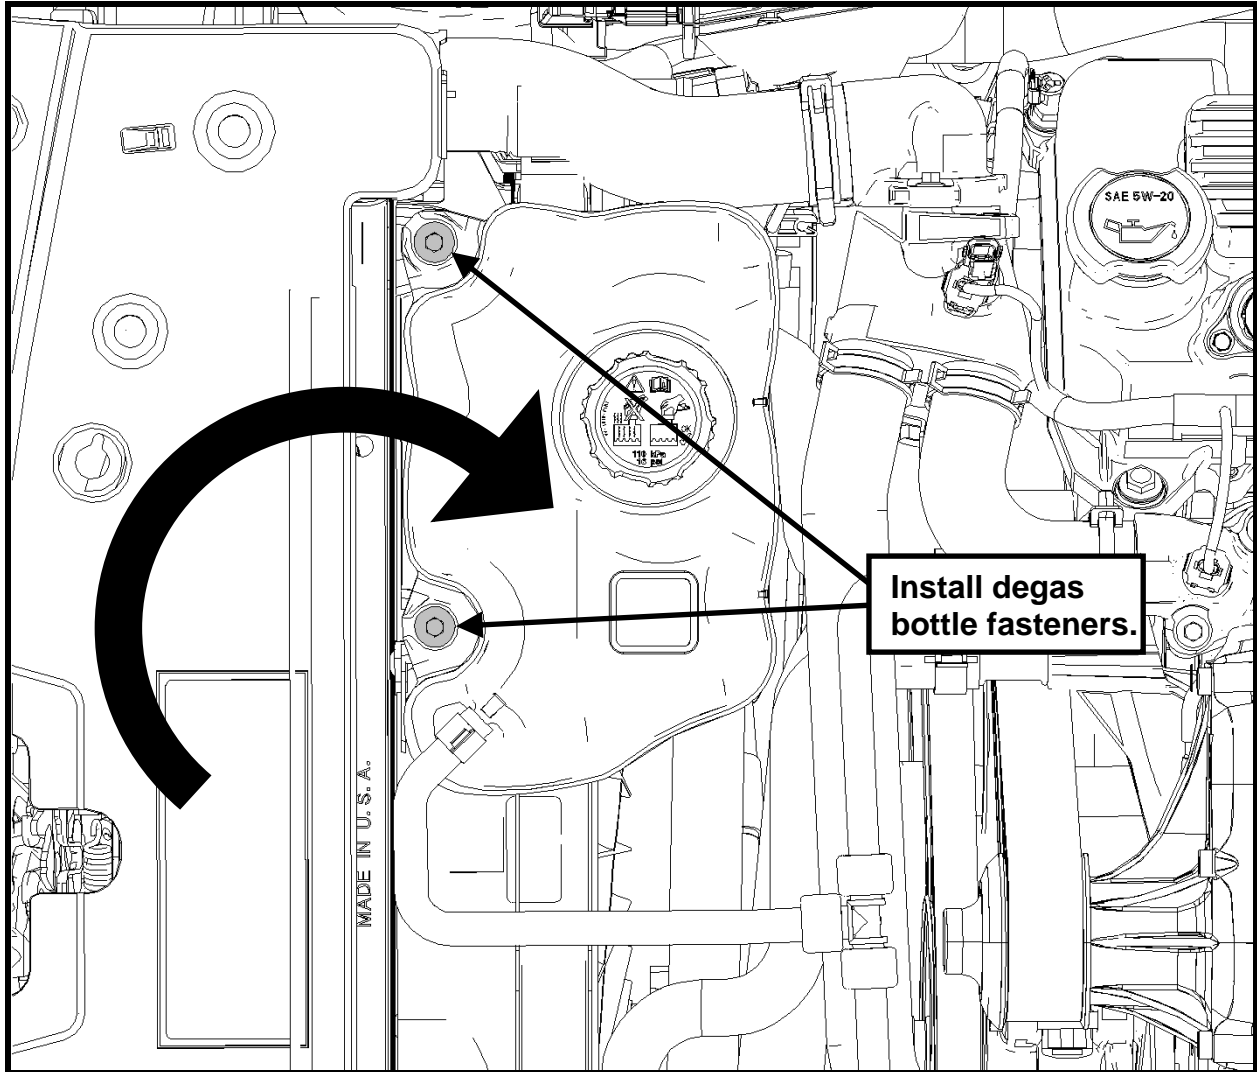

Fig. 20
STEP 5: Rotate the degas bottle back into place. Re-install the two fasteners used to secure the degas bottle in place and torque to 10 Nm (88 lb in) (See Fig. 20).